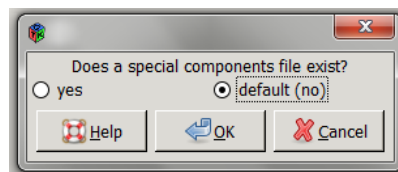

Figure 4
**Step 4:** A pop-up window will then appear asking if a special component file exists, click *>no* (figure 4)